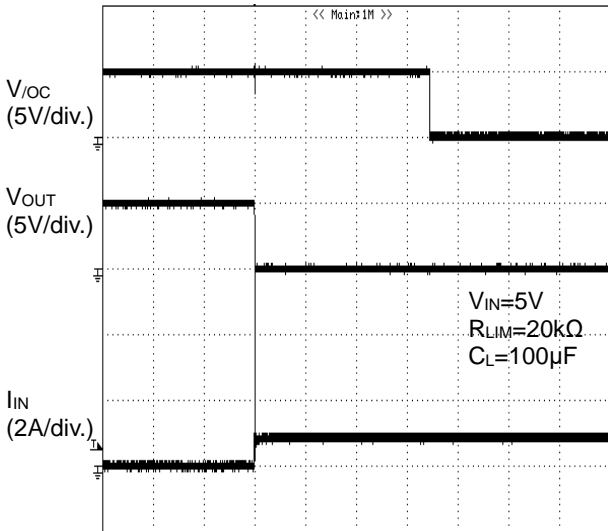

Figure 46. Over Current Response
(2) When the output short-circuits or high capacity load is connected while the switch is on, very large current flows until the over-current limit circuit reacts. When the over-current detection and limit circuit operates, current limitation is carried out.(See figure 46,47.)